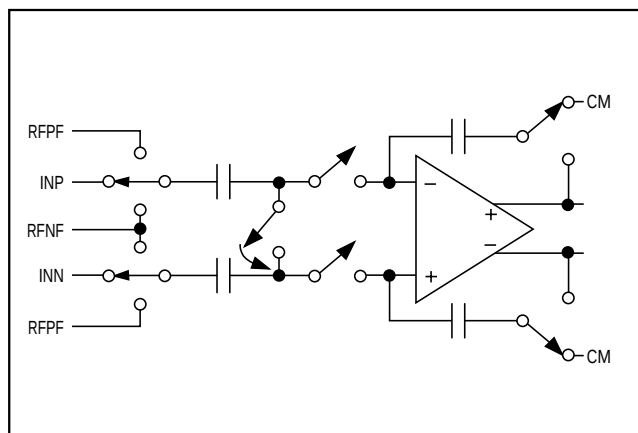

Figure 2. Simplified MDAC Architecture
Fully differential switched capacitor circuits (SC) are used for both the reference and analog inputs (Figure 2). This allows either single-ended or differential signals to be used in the reference and/or analog signal paths. The signal voltage on these pins (INP, INN, RFP₋, RFN₋) should neither exceed the analog supply rail, AV_{DD} nor fall below ground.